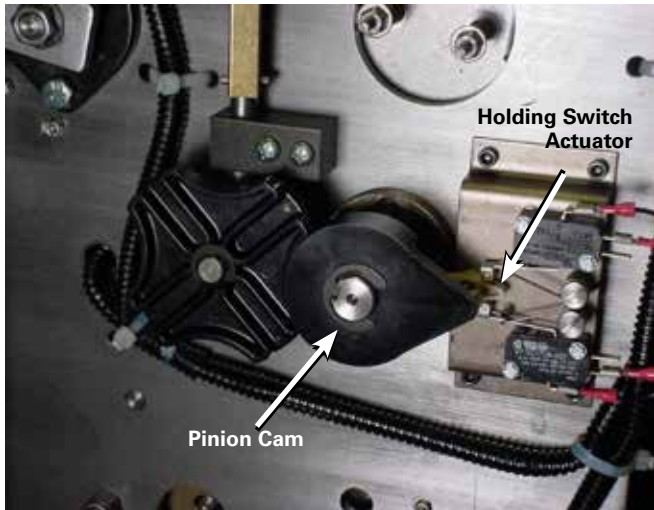

Figure 9. Neutral position for position indicator pinion cam and holding switch.
C. The pinion cam is pointing to the right over the holding switch actuator. See Figure 9.